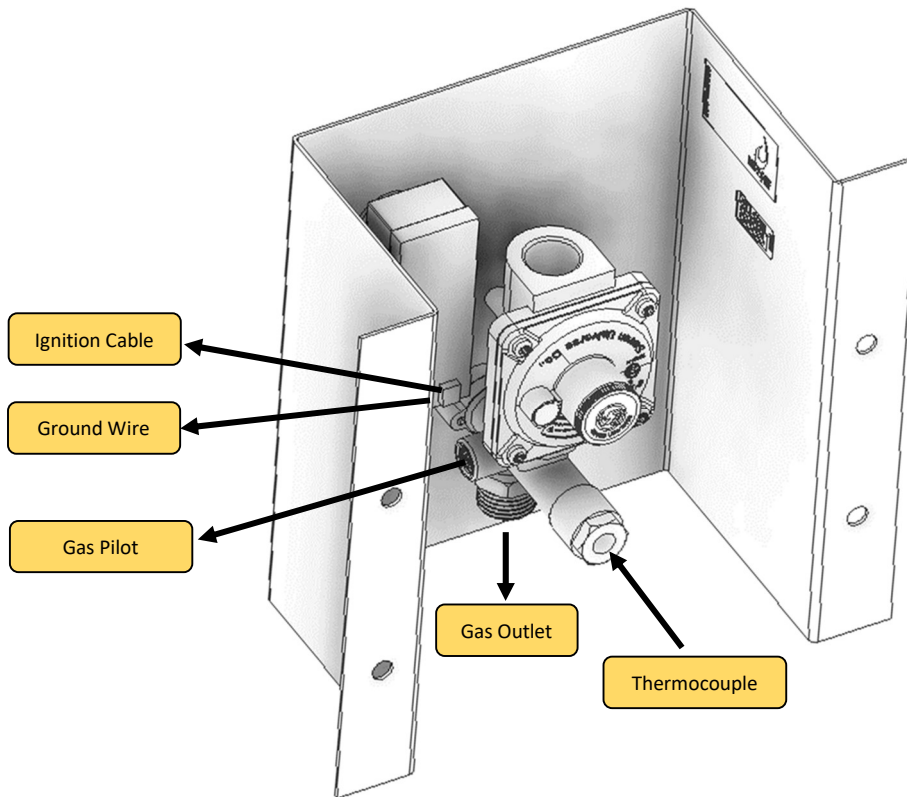

Figure 3: Connections
- Attach the ignition cable to the ignition switch as shown in figure 3.
- Attach the main gas line to the inlet of the gas valve as shown in figure 3.